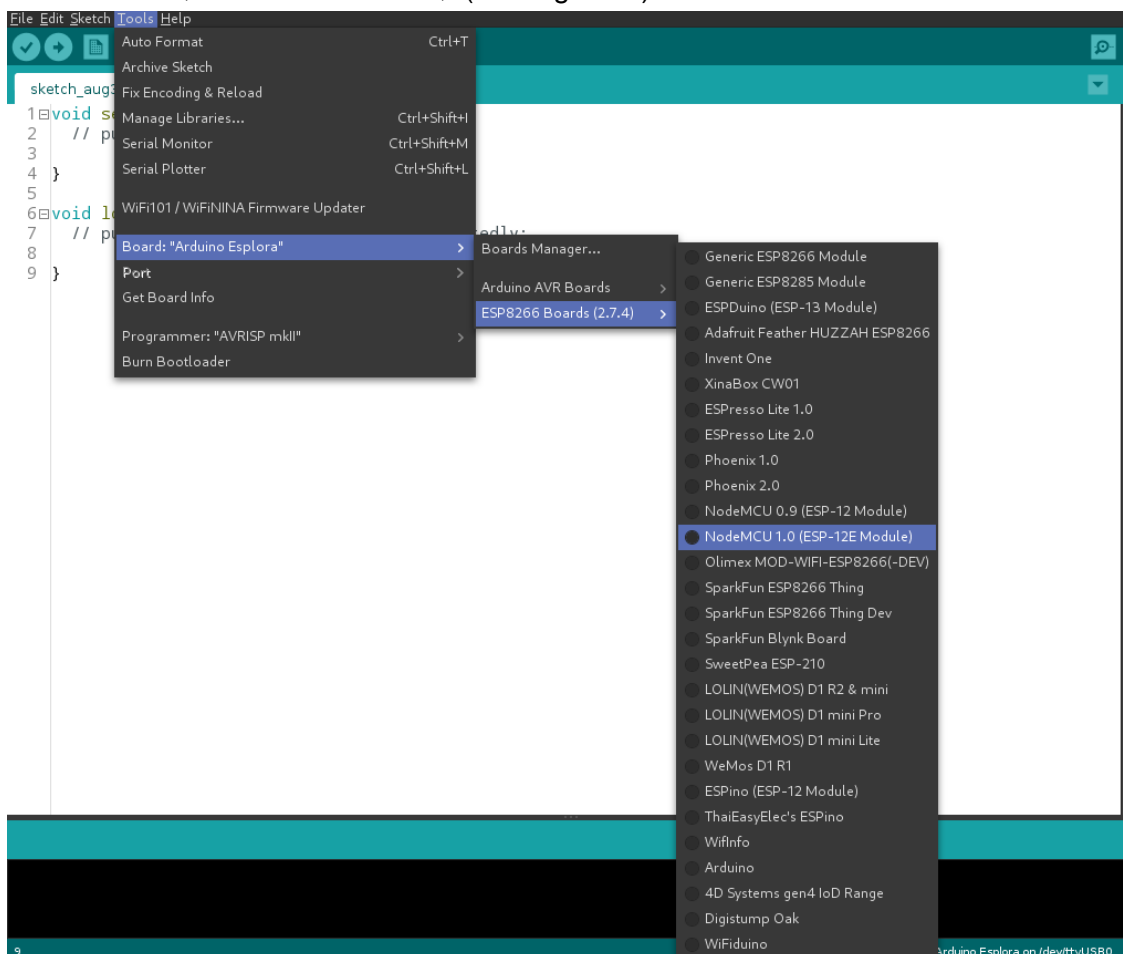

Figure 12x. Selection of NodeMCU board
- In the Arduino IDE select: Tools -> Board -> ESP8266 Boards -> NodeMCU 1.0 (ESP-12E Module) (see Fig. 12x.).